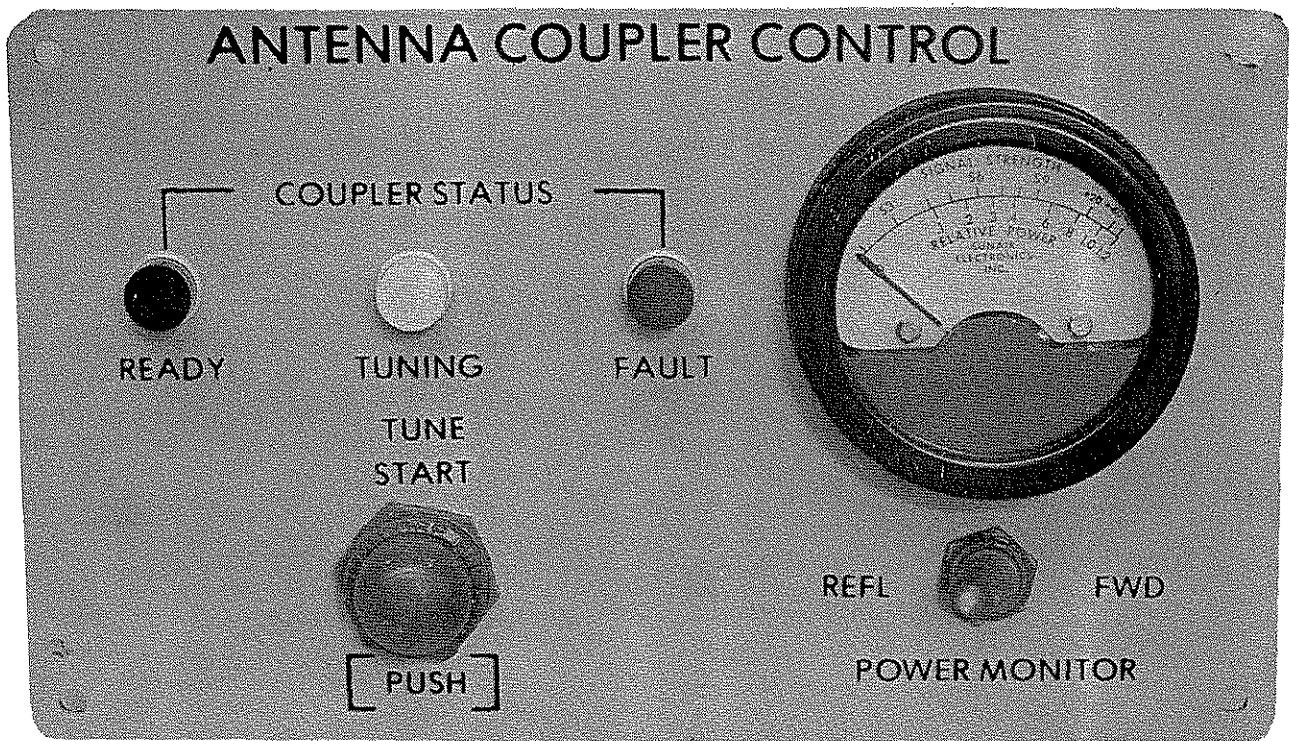

Figure 3.1 Operating Controls
3.2 GCU-935 AUTOMATIC ANTENNA TUNER CONTROLS (REFER TO FIGURE 3.1)